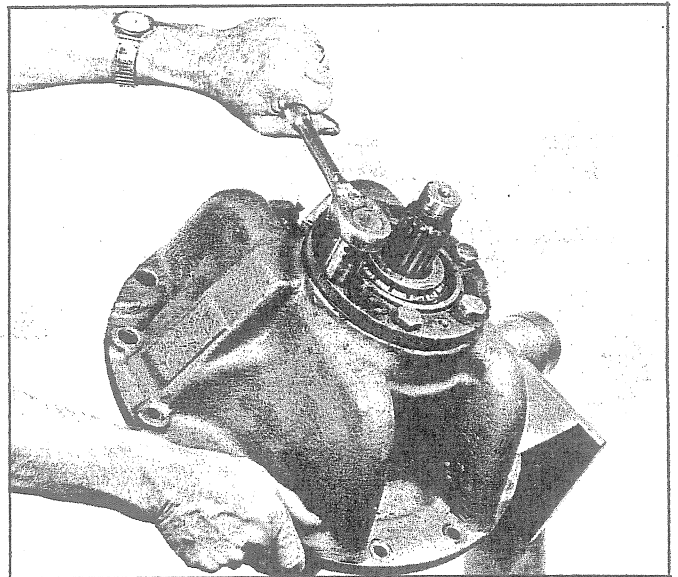

Fig. 60 - Positioning Pinion Shaft Assembly into Housing
8. Position pinion and cage assembly into housing. Use five identical retainer bolts and pull pinion shaft assembly into place as shown in Fig. 60. Make sure oil passages are aligned.